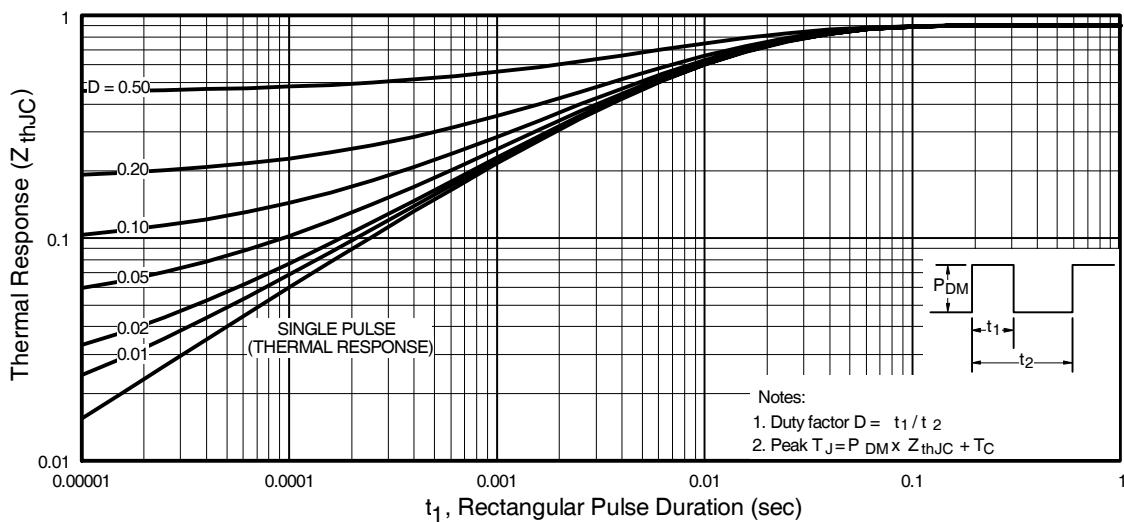

Fig 11. Maximum Effective Transient Thermal Impedance, Junction-to-Case
- ① Repetitive rating; pulse width limited by max. junction temperature. (See fig. 11)
- ② Starting $T_J = 25^\circ\text{C}, L = 194\mu\text{H}$